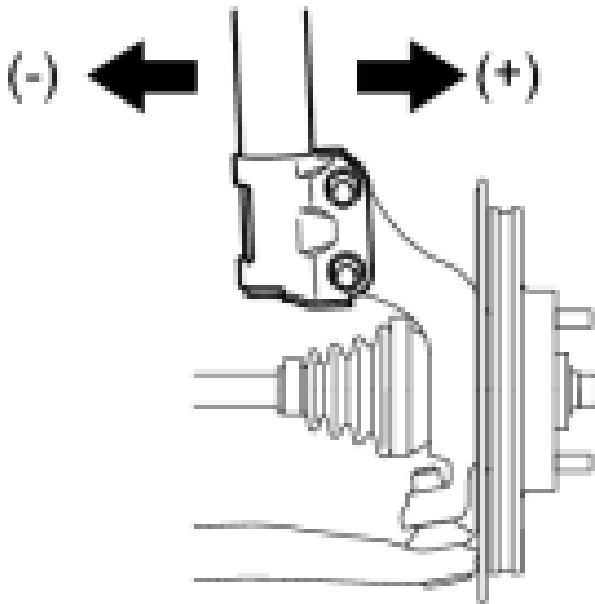

Fig 7-11
(2) Place calibrated Easy Check Gauge onto front wheel clamp.
(3) If adjustment is necessary you can adjust one side to the positive direction. You will need to re-torque the two lower shock nuts. (Fig 7-11)